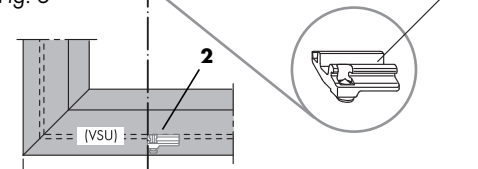

Fig. 6
- A** Slide the stay arm of the brake stay ALU short/long (5/6) on to the inserted filling piece for end position cushioning (4) as far as the stop (3) (Fig. 6).
Position sash lift (1) on bottom locking side as shown (Fig. 6) and fix with grub screws (torque 1.5 ± 0.25 Nm, 2.5 mm AF).